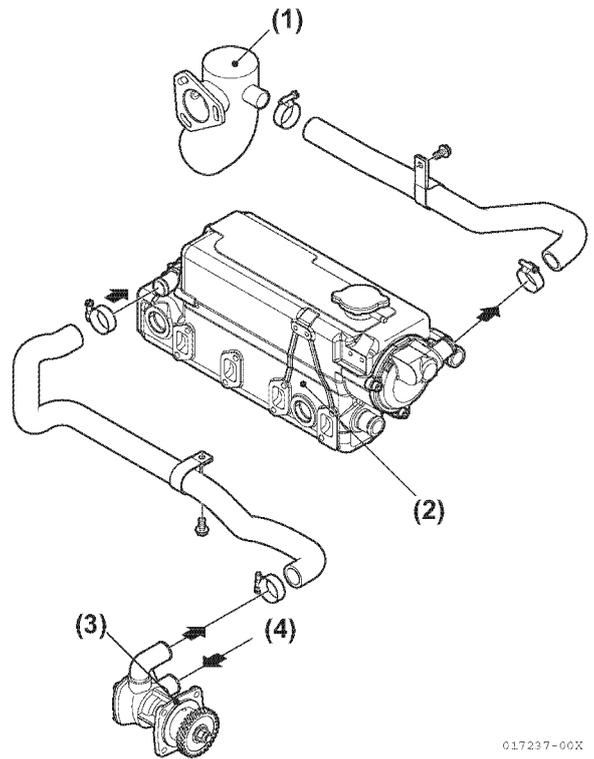

Figure 5-25
20. Remove the coolant pipe (seawater / freshwater) (Figure 5-22) thru (Figure 5-25):
21. Remove the heat exchanger and gasket packing (Figure 5-25).